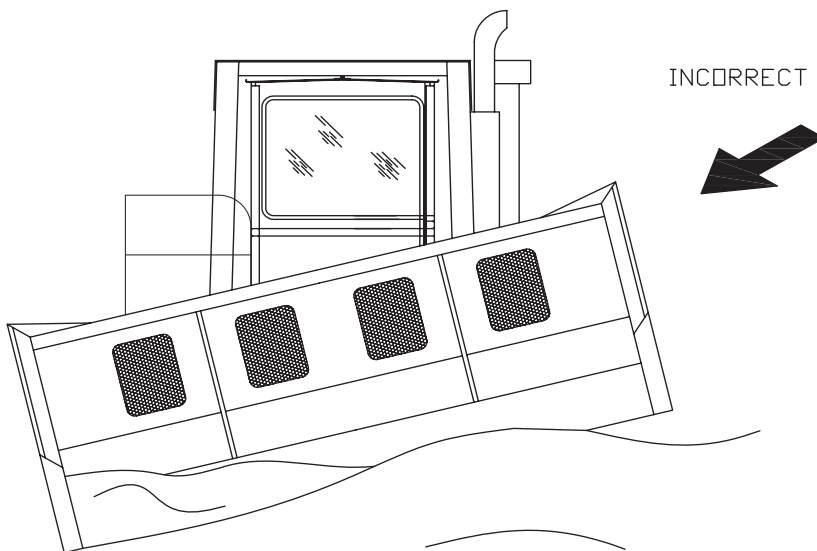

Figure 5-8
1. To obtain maximum load retrieval of chip Carrydozer, **start doze on as level a grade as possible.** Lower the bucket and move into the pile (See Figure 5-8).